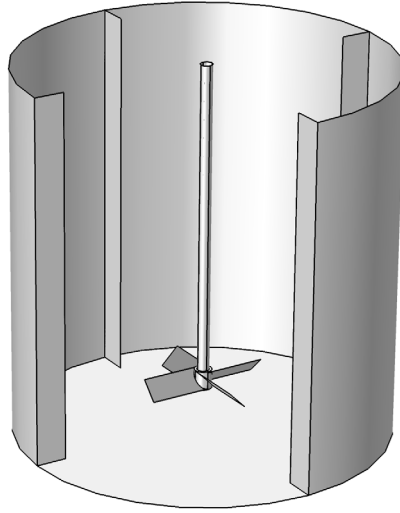

Figure 1: Mixer geometry showing the vessel, baffles, and impeller.
The mixer simulated consists of a baffled flat-bottom vessel and a pitched four-blade impeller. The mixer geometry and the simulation conditions used in this model correspond to the ones used in the experiments of Bittorf and Kresta (Ref. 1). The height (H) and diameter (T) of the mixer vessel is 0.24 m. The diameter of the impeller, D_a , is $0.33T$, and the clearance, C , between the impeller and the bottom is $0.40D_a$. The pitch of the impeller blades is 45° . The geometry of the mixer simulated is shown in Figure 1. The fluid contained in the mixer is water, which is mixed using an impeller rotational frequency of $N = 8.58$ turns per second. The resulting impeller Reynolds number is: